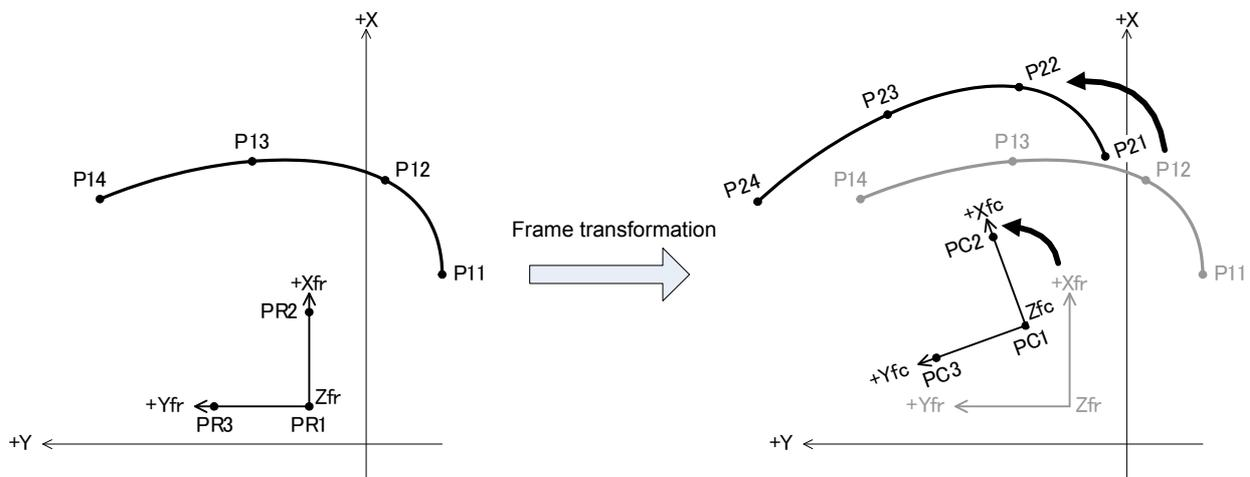
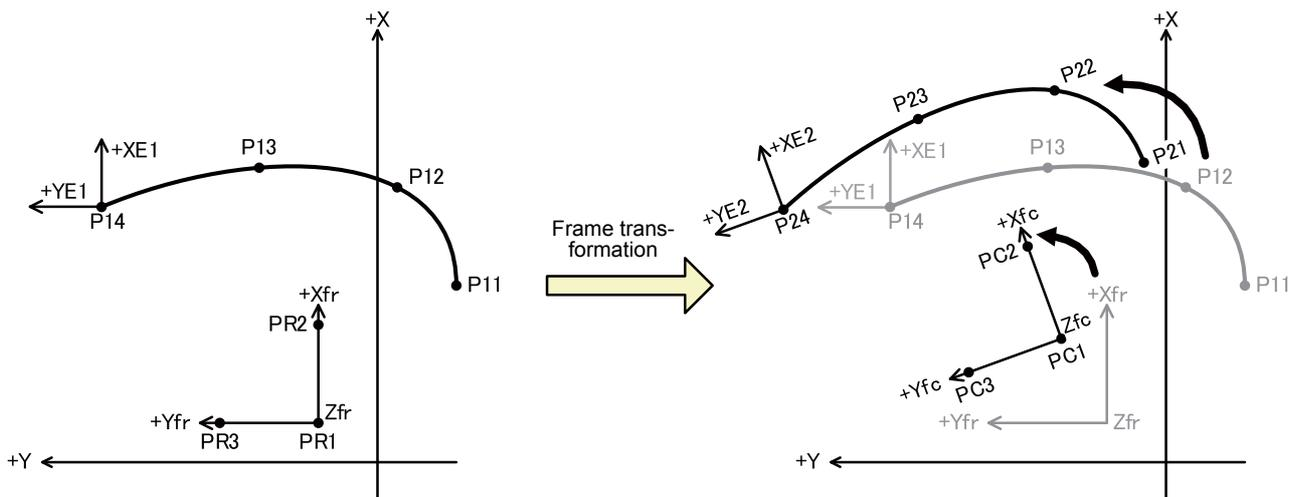

Fig.7-22:Frame transformation (Spline interpolation)
Fig.7-23:Frame transformation (Ex-T spline interpolation)
Frame transformation is explained using Fig. 7-22 as an example.
- Origin position..... Equivalent to PR1, PC1 in Fig. 7-22 and Fig. 7-23.
- Position on X axis Equivalent to PR2, PC2 in Fig. 7-22 and Fig. 7-23.
- XY plan +Y direction position.... Equivalent to PR3, PC3 in Fig. 7-22 and Fig. 7-23.